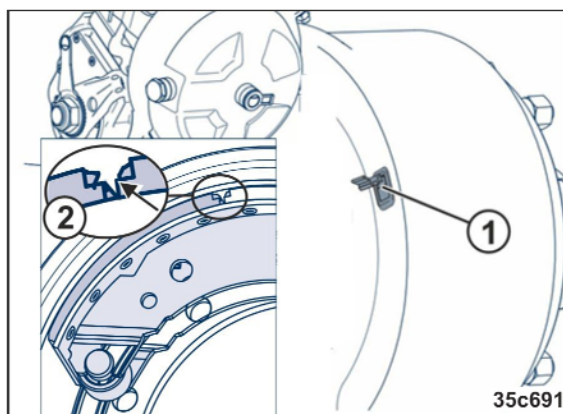

Fig. 282
To check the brake pad thickness, open the inspection hole (Fig. 282/1) by opening the rubber tab.
- Wear edge (Fig. 282/2) was reached.